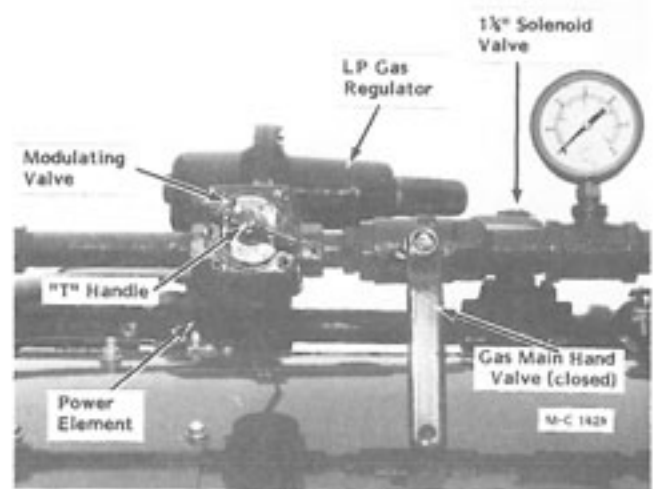

Figure 32
- Close the gas main hand valve for burner (handle 90° to the piping), see Figure 32.
- Natural Gas** - Open the supply valve. Close hand valve. See Figure 32.